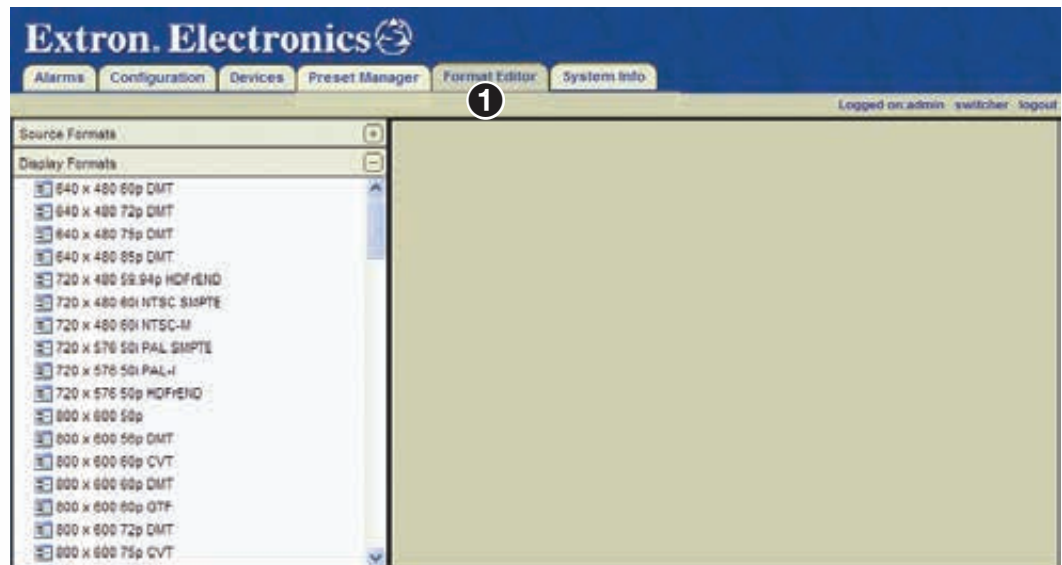

Figure 122. Format Editor Page
This page is accessed by selecting the **Format Editor** tab (see figure 122, ①).